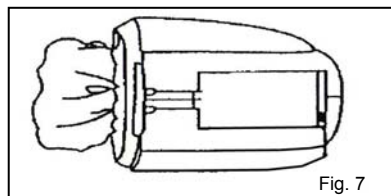

Fig. 7
3. Pull off the dust cup filter. (Fig. 7)